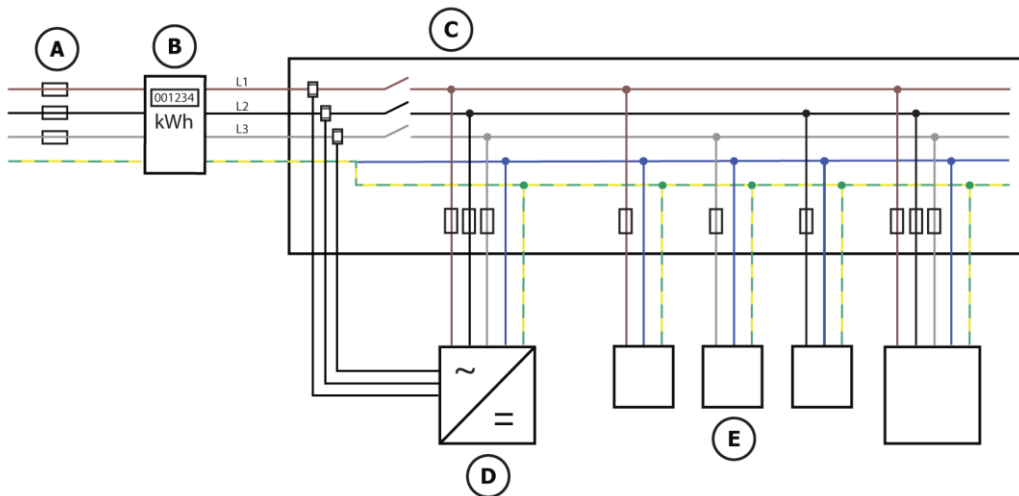

Figure 4. CT Clamps Connection for a 3-Phase Installation
1. Connect the CT clamps on the incoming AC cable between B and C as shown in Figures 4 and 5.
Do not connect the CT clamps between C and D or between C and E as shown in Figures 4 and 5.